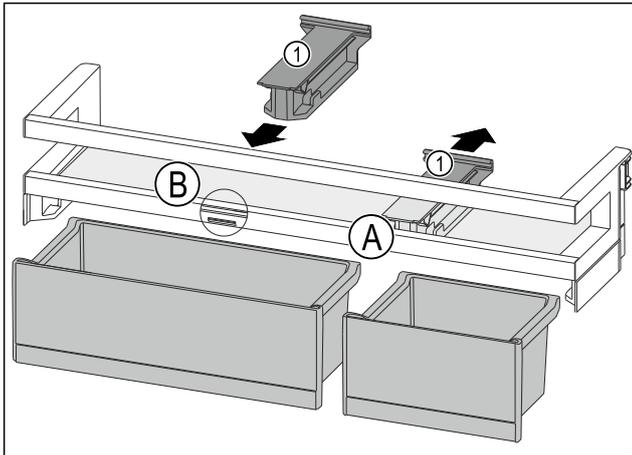

Fig. 82
- ▶ Take off the holding part Fig. 82 (1) in position Fig. 82 (A) backwards.
- ▶ Insert the holding part Fig. 82 (1) in position Fig. 82 (B).